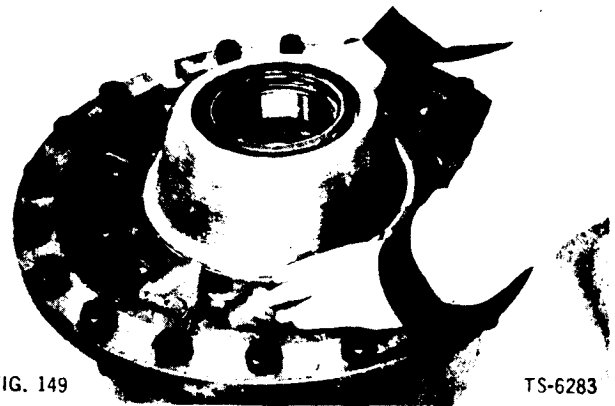

FIG. 149
- 5. Position oil catcher on hub (Fig. 149).